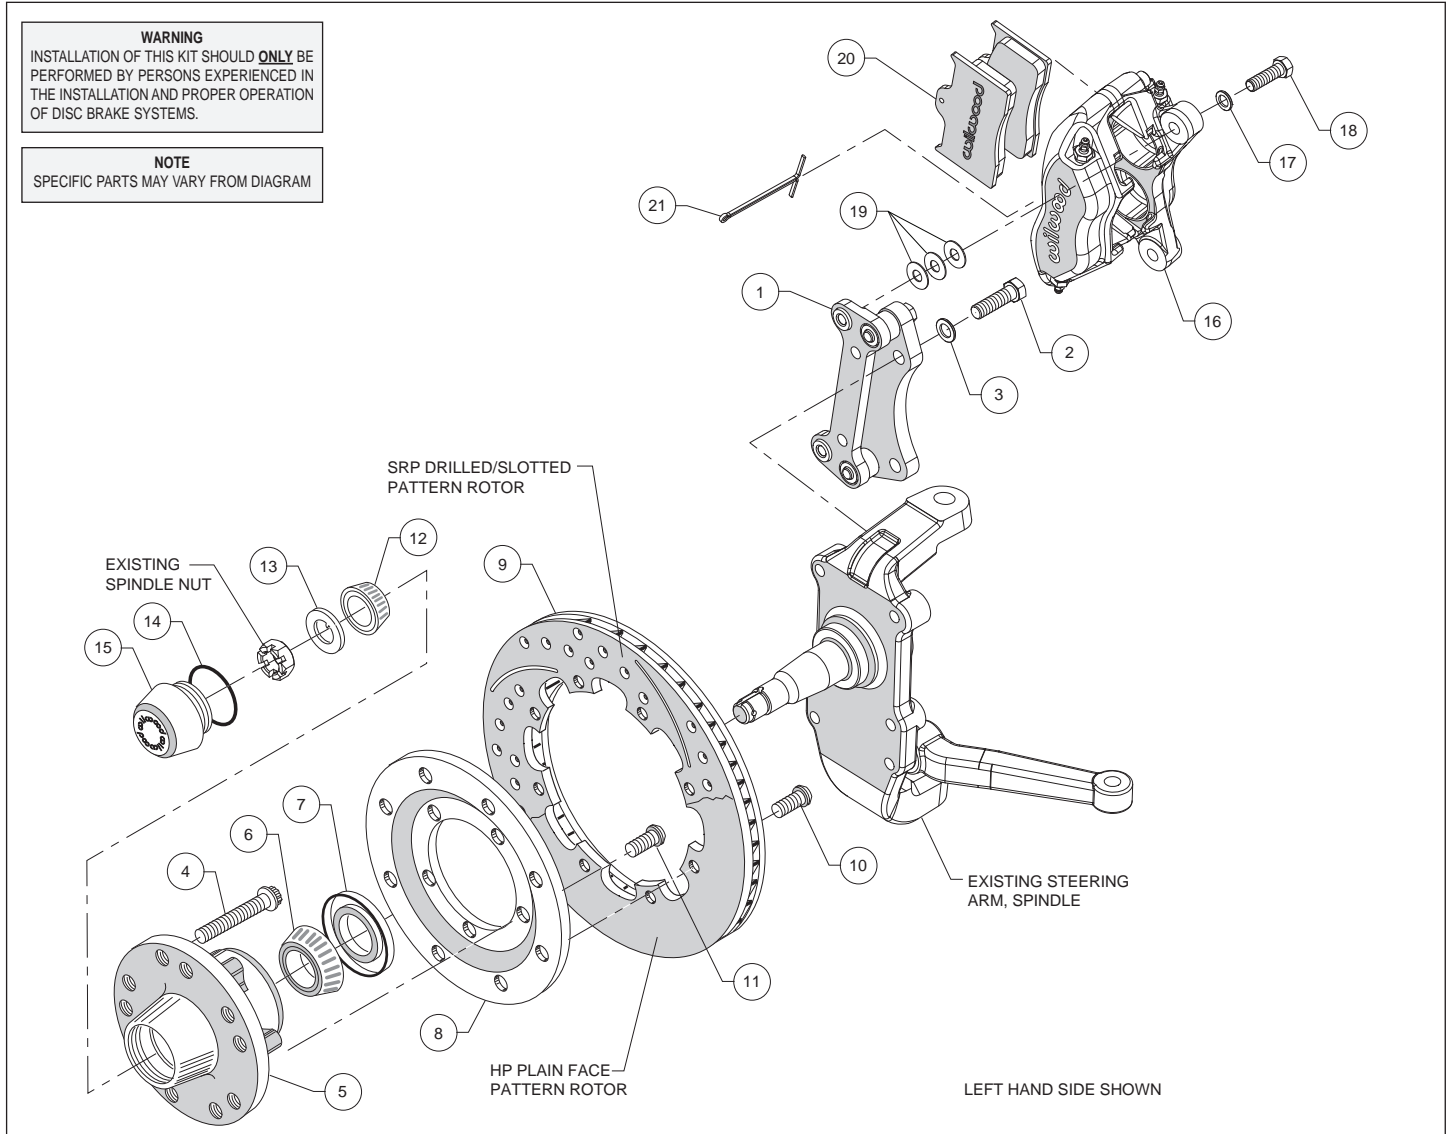
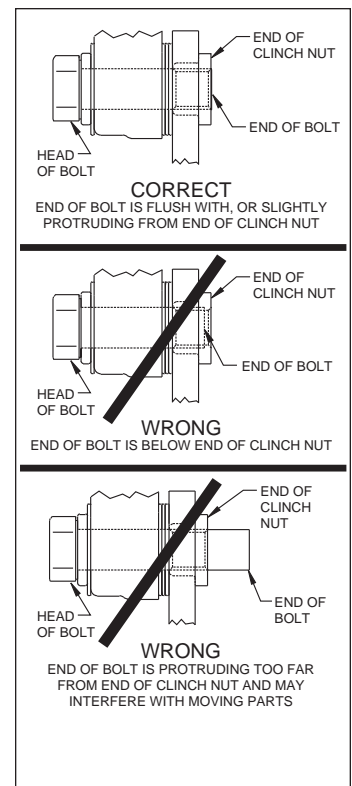

Figure 1. Typical Installation Configuration
Figure 3. Clinch Nut Engagement Diagram
Assembly Instructions (numbers in parenthesis refer to the parts list on the preceding page, and Figure 1): **CAUTION:** All mounting bolts must fully engage insert nuts. Be sure to check that all bolts are either flush or protruding through flanged side of clinch nut after shimming, Figure 3.
- Align caliper mounting bracket (1) with the corresponding holes, on the backside of the spindle and attach using bolts (2) and washers (3), as shown in Figure 1 and Photo 1. Temporarily tighten the mounting bolts. Ensure that the flanged heads of the clinch nuts in the bracket are facing outboard, Photo 1. **NOTE:** The bracket must fit squarely against the mounting points on the spindle. Inspect for interference from casting irregularities, machining ridges, burrs, etc. Remove bolts one at a time, apply red *Loctite*® 271 to threads, and torque to 55 ft-lb.
- Orient the rotor (9) and the rotor adapter (8) as shown in Figure 1 and Photo 4. Attach the rotor to the adapter using bolts (10). Using an alternating sequence, apply red *Loctite*® 271 to the threads, and torque to 25 ft-lb.
- Mount the adapter/rotor assembly (8/9) to the hub (5) using bolts (11), as shown in Figure 1 and Photo 5. Using an alternating sequence, apply red *Loctite*® 271 to the threads, and torque to 55 ft-lb.
- Pack the small outer bearing cone (12) with high temperature disc brake bearing grease and install into hub (5). Slide the hub/rotor assembly onto the spindle. Secure using spindle washer (13) and OEM spindle nut, Photo 6. Adjust bearings per OEM specifications. Install saved OEM nut lock (if any) and a new cotter pin (not included).
- Screw dust cap (15) into hub (5), Photo 7. Friction created by the o-ring (14) on the dust cap keeps it from unscrewing. **NOTE:** The O.D. of the existing OEM spindle washer may be larger than the I.D. of the dust cap not allowing it to seat against the hub face. Therefore, use the spindle washer (13) supplied with the kit instead of the OEM washer.
- NOTE:** Please reference the caution statement at the beginning of the assembly instructions. Mount the caliper (16) onto the caliper mounting bracket (1) using bolts (18) and washers (17), as shown in Figure 1. Initially place three .035" thick shims (19) on each bolt between the caliper and the bracket, Photo 8. Temporarily tighten the mounting bolts and view the rotor (9) through the top opening of the caliper. The rotor should be centered in the caliper, Photo 9. If not, adjust by adding or subtracting shims between the bracket and the caliper. Always use the same amount of shims on each of the two mounting bolts. **NOTE:** The end of each bolt must be flush with or slightly protruding from the head of the clinch nut, as shown in Figure 3. If necessary place spare shims between washer (17) and caliper mounting ear to achieve the proper clinch nut engagement. Once the caliper alignment and clinch nut engagement are correct, remove the bolts one at a time, apply red *Loctite*® 271 to bolt threads, and torque to 40 ft-lb.